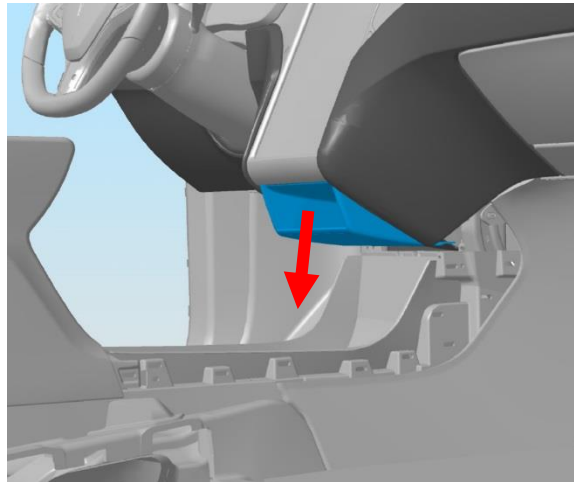

Figure 27. Center storage compartment
- n. Pull down on the center storage compartment to release the clips (Figure 27).